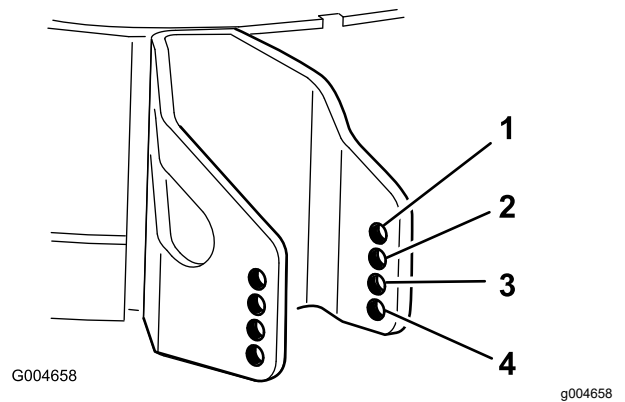

Figure 11
4. Select a hole so the anti-scalp roller is positioned to the nearest corresponding height-of-cut desired (Figure 11).